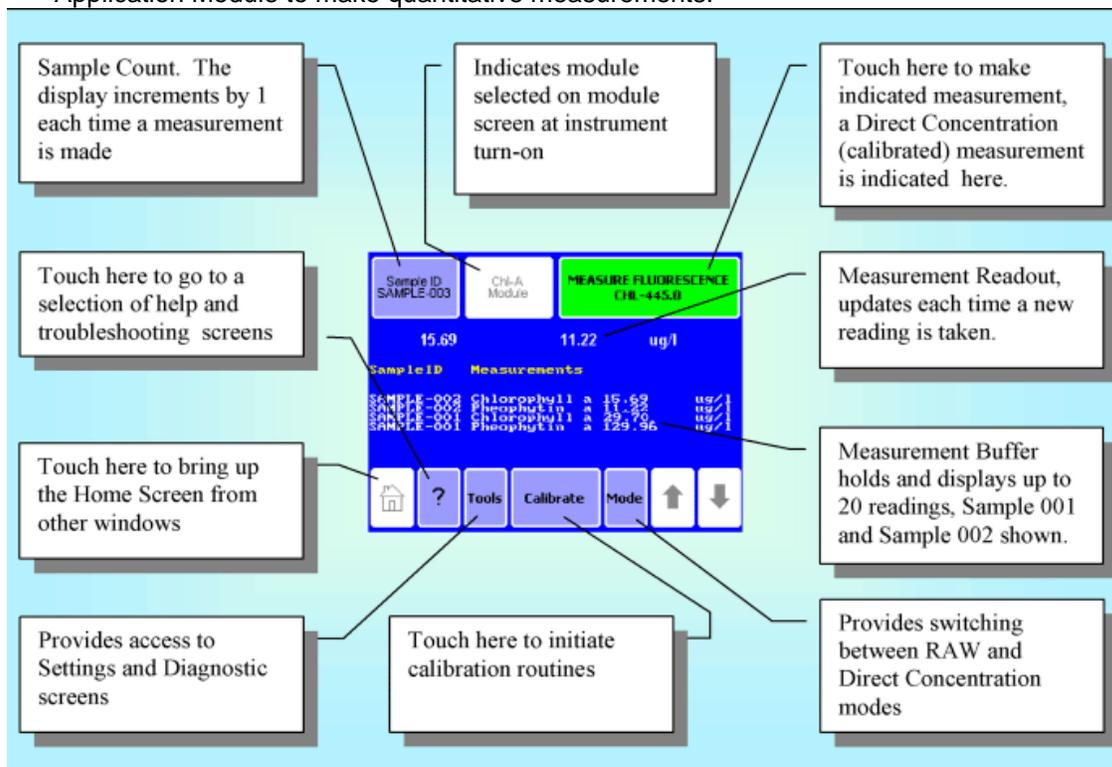

Figure 4: Trilogy Home Screen Display for Fluorescence Module Configuration.
4. When the Home Screen is displayed (Fig. 4), you are now ready to use Trilogy in its Raw Mode (measurements are relative) or calibrate the Trilogy and the snapped-in Optical Application Module to make quantitative measurements.